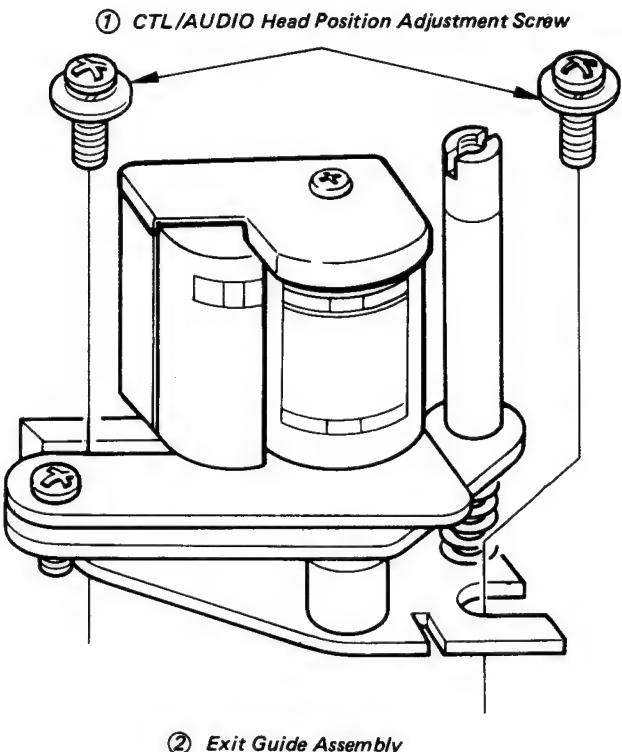

Fig. 5-108 Exit Guide Assembly (1)
- Replacing the Exit Guide Assembly (see Figs. 5-108, 109)**
1. Remove the two CTL/AUDIO position adjustment screws ①.
2. Lifting the exit guide assembly ② upward, unsolder the wires.
- CAUTION:** Before tightening the screws ①, put the lead wires under the exit guide assembly.